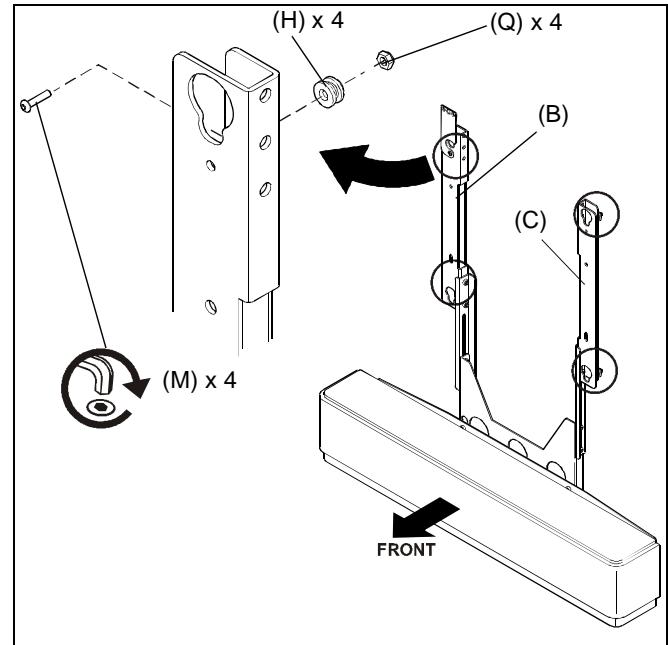

Figure 9
1. Attach two mounting buttons (H) through the upper and lower holes in right speaker mounting support (C) using two 10-24 x 7/8" button head cap screws (M) and two Nylock nuts (Q). (See Figure 9)
2. Attach two mounting buttons (H) through the upper and lower holes in left speaker mounting support (B) using two 10-24 x 7/8" button head cap screws (M) and two Nylock nuts (Q). (See Figure 9)